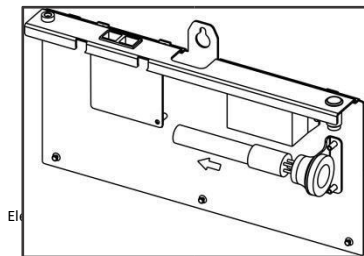

Figure 4.11 Schematic diagram of photocatalyst component maintenance step 4
- 4) First disconnect the cable of photocatalyst assembly, remove the photocatalyst sheet surrounded by the photocatalyst assembly, then slowly push the lamp to the left, and remove and push the lamp out of the rubber sleeve. As shown in Figure 4.11;